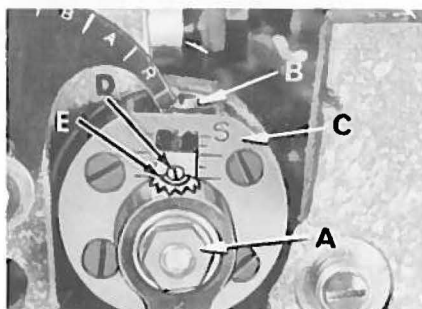

Fig. 10
Set the stitch to required length. This is accomplished by loosening the locknut (A, Fig. 10) $\frac{1}{2}$ turn (it has a left hand thread) on the end of the stitch regulating stud and turning the stitch adjusting screw (B) located under the left end of the cloth plate, in the head of the main shaft (C), which is marked with "L" and "S". Turning the screw clockwise shortens the stitch (moves stitch regulating stud toward the "S") and turning it in a counterclockwise direction lengthens the stitch (moves stitch regulating stud toward the "L"). Retighten the locknut securely. To prevent destructive damage to the feed drive bearing, the Key screw (D) must engage the "U" shaped key slot in the ferrule (E).